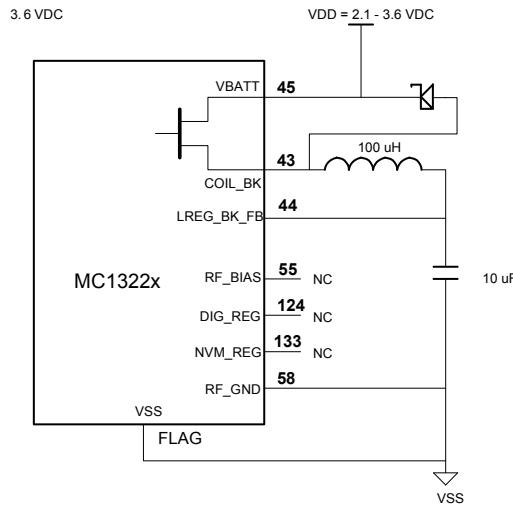

Figure 3-2. Varying VDD from 2.1 - 3.6 VDC Using Buck Regulator
For some battery-based applications, an optional, on board buck regulator is provided to help maximize battery life. Figure 3-2 shows the configuration of the buck regulator. On board MOSFETs are used to switch an external inductor and capacitor as a synchronous-rectifier regulator when enabled. The buck regulator drops the higher battery voltage to about 2.0Vdc that is applied to the on board linear regulators. This allows lower net current from the battery to maximize the life of the battery.
- Device start-up from reset/POR - The circuit configuration of Figure 3-2 presents a conundrum for start-up: the NVM must be powered to allow the boot process to read the NVM, load RAM, and start executing from RAM. However, the default for power supply configuration is VBATT selected (PWR_SOURCE[1:0] = 0b00), where LREG_BK_FB is normally tied directly to the NVM regulator input. This allows the regulator to be enabled to access the NVM.